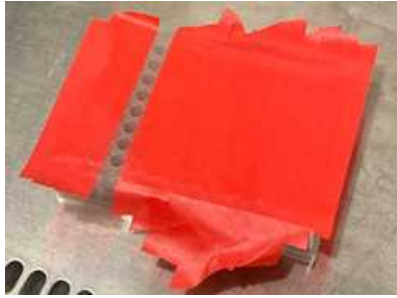

Figure 2. Moving lab tape on the SSP to expose one column at a time.
- Start from well A1 and continue down vertically, with one sample per well of the SSP. Once the first column has been filled, move the tape covering column 2 so that it covers column 1 but exposes column 2 (Figure 2).